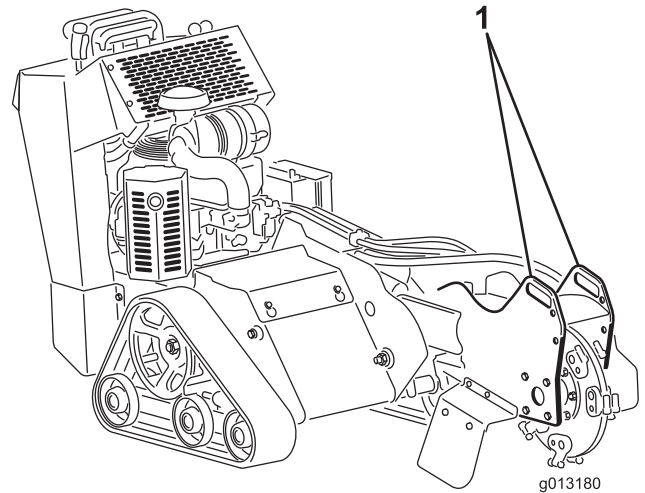
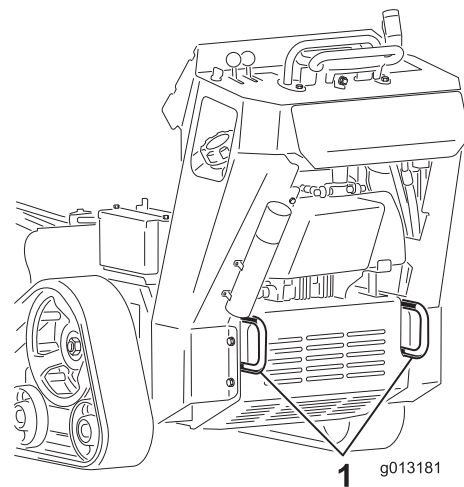

Figure 23
Figure 24
3. Secure the machine to the trailer with chains or straps using the tie-down/lift loops at the front and rear of the machine (Figure 23 and Figure 24). Refer to your local ordinances for trailer and tie-down requirements.
You can lift the machine using the tie-down/lift loops as lift points (Figure 23 and Figure 24).